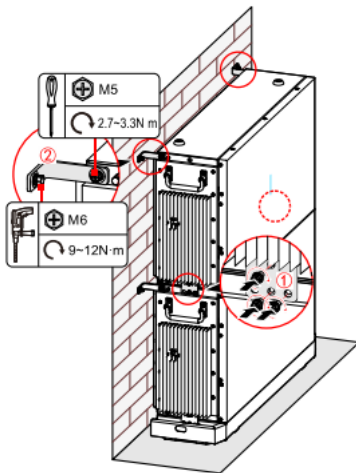

Figure3-20 Fix the battery module
2. Fix the battery module, as shown in Figure3-20.